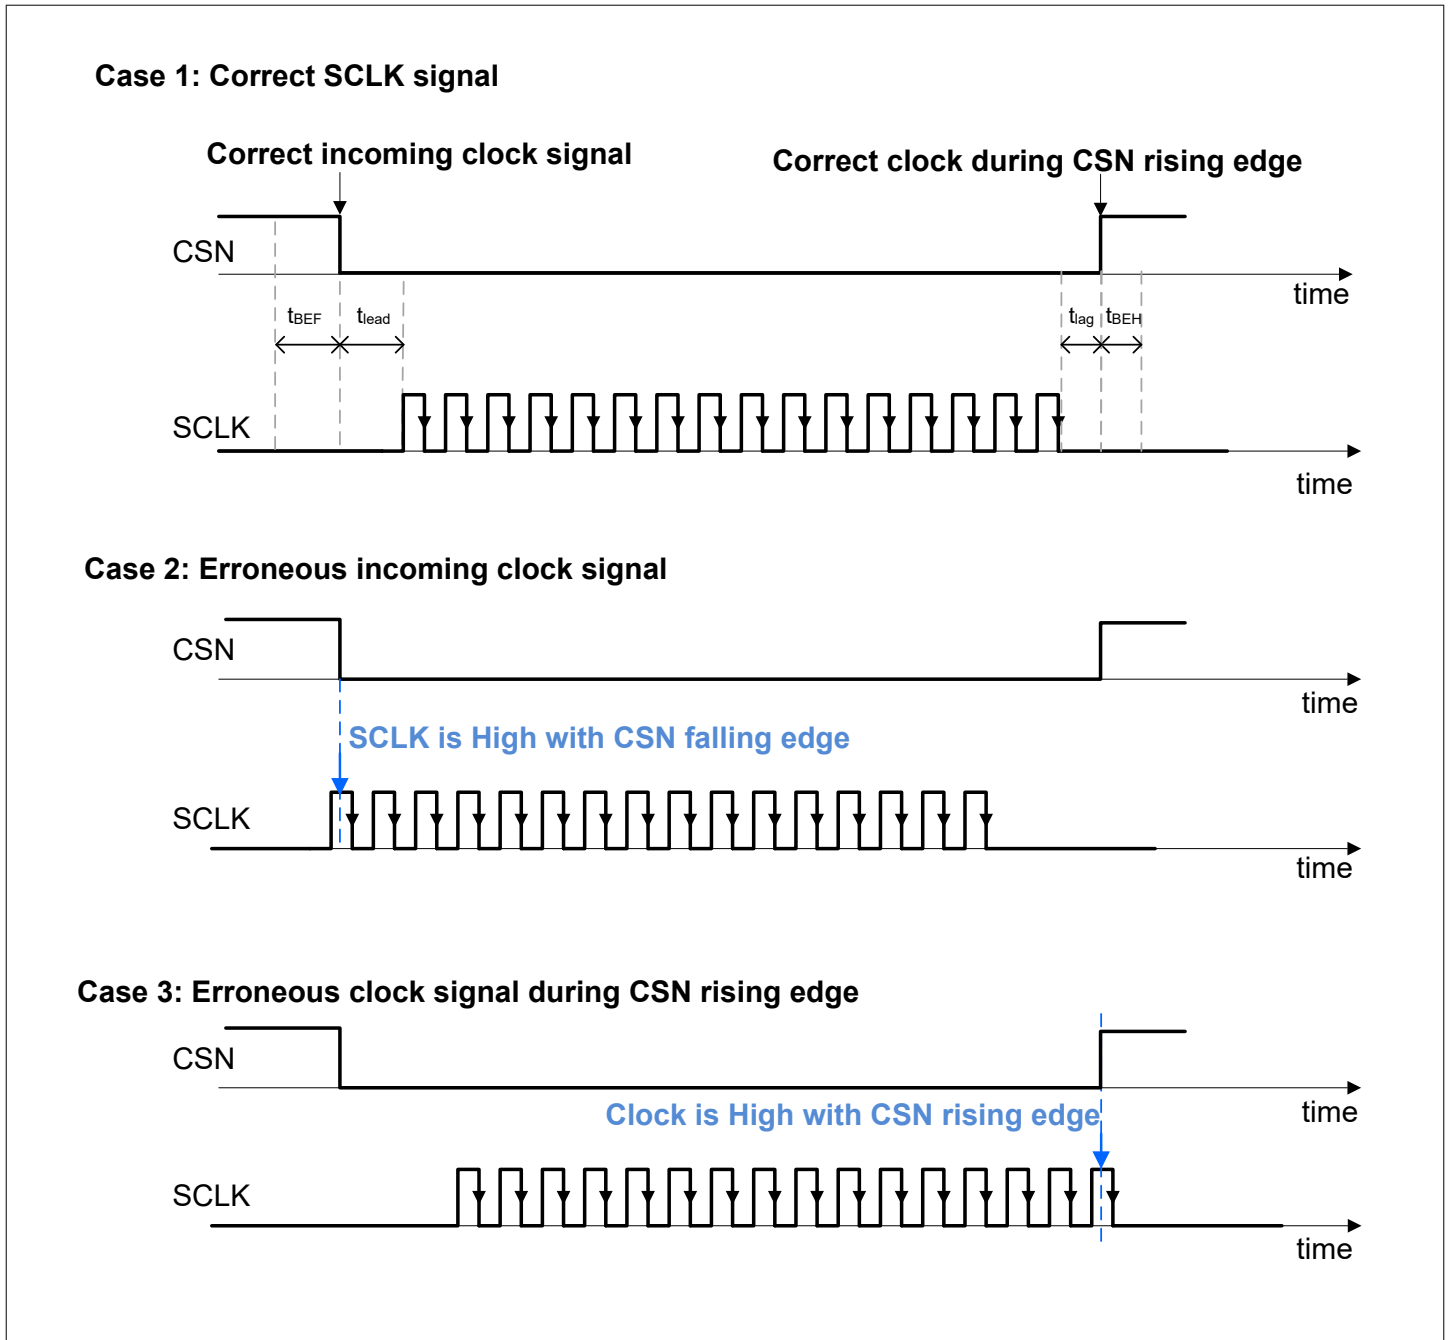

Figure 22 Polarity error
- A clock polarity error is detected, see the Figure 22 below: the incoming clock signal was high during CSN rising or falling edges (protocol error)